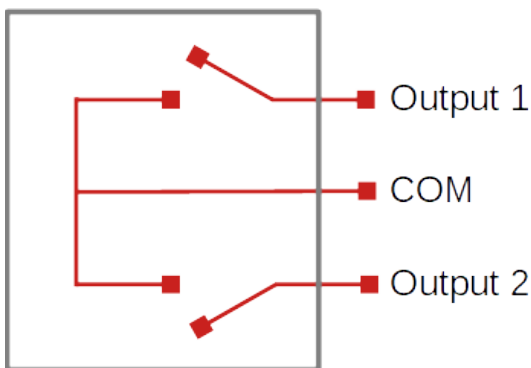

Figure 8 Isolated outputs diagram
- The output counts with two isolated/potential-free signals to command a recloser or two contacts having the same common point (phase or neutral), as it can be seen in Figure 8